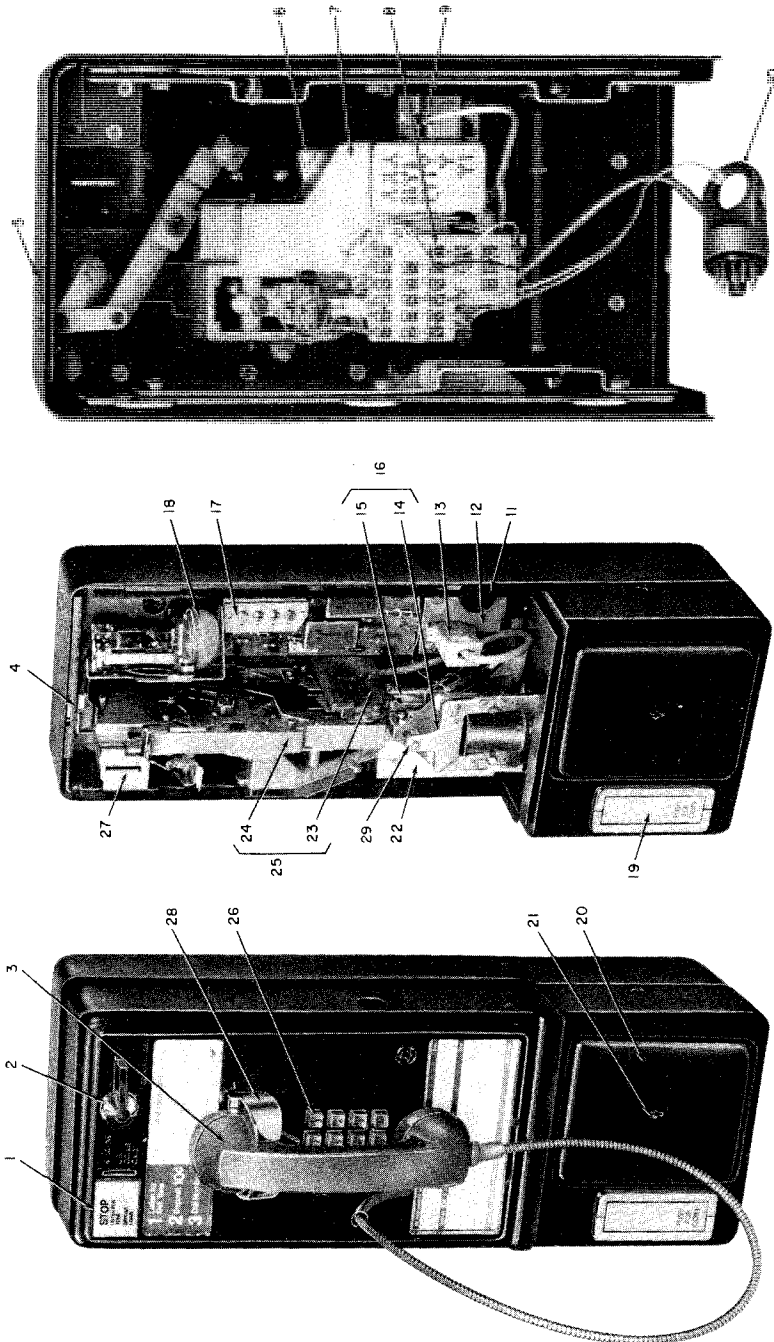

Fig. 1 — 1D-Type Coin Telephone Set
1.01 This section contains information on the 1D/2D-type coin telephone sets (Fig. 1, 2, and 3) and the D-180707 Kit of Parts (Fig. 4).
- The D-180707 Kit of Parts contains a 47A (MD) or 47A2 signal and a 32A chassis
- 23 – 47A (MD) or 47A2 Signal
- 25 – 20A47A (MD) or 20A47A2 Chute
- 29 – 811057835 Cover (not shown in Fig. 1)
2.02 *Components:* See Table B and Fig. 1 and 2.